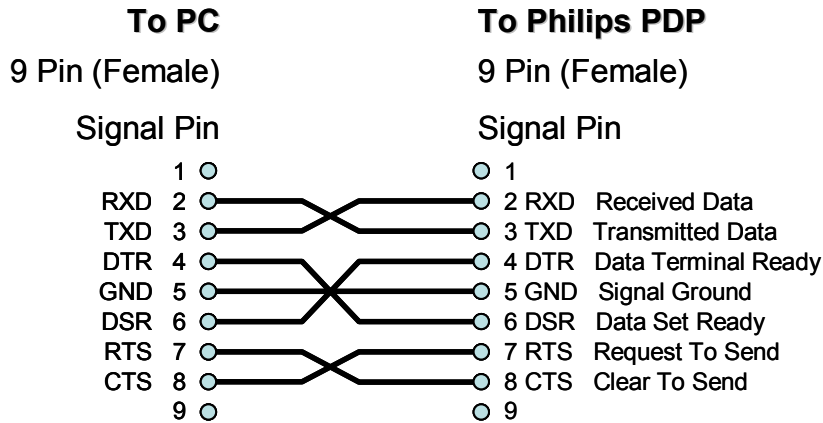

Figure-1
- 1、Prepare 1 piece of RS232 cable (The Pin connection see the Figure-1, If difference, please re-connect the cable) and 1 set of PC.